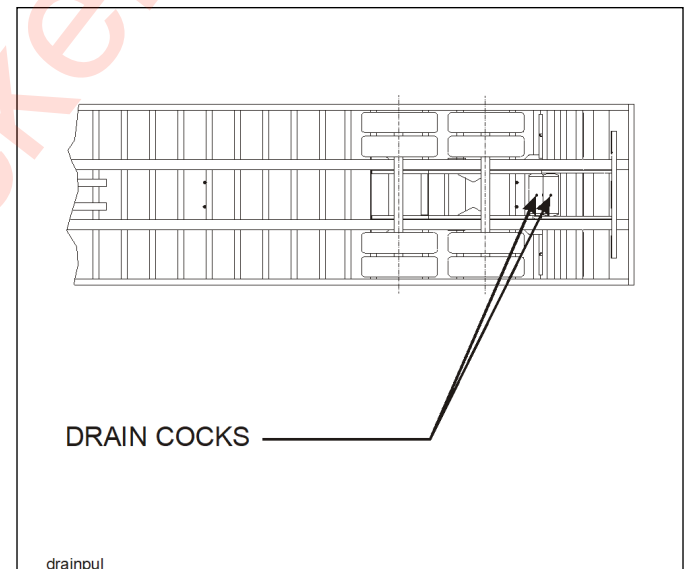

Figure 4-8: Drain Cock Locations
- Drain air reservoir daily. A drain cock on the bottom of each air reservoir vents the tank to drain collected water and oil. If held open, air pressure in the tanks is relieved, causing the emergency or parking brakes to be applied (**See Figure 4-8.**)